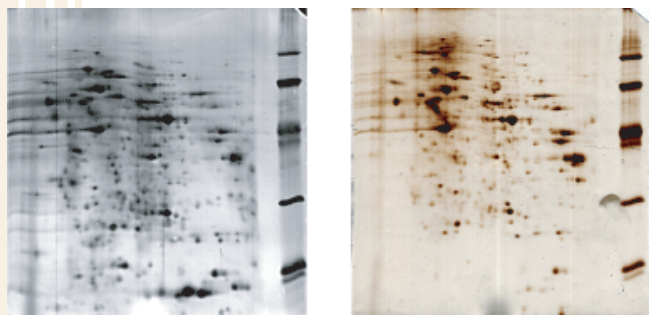
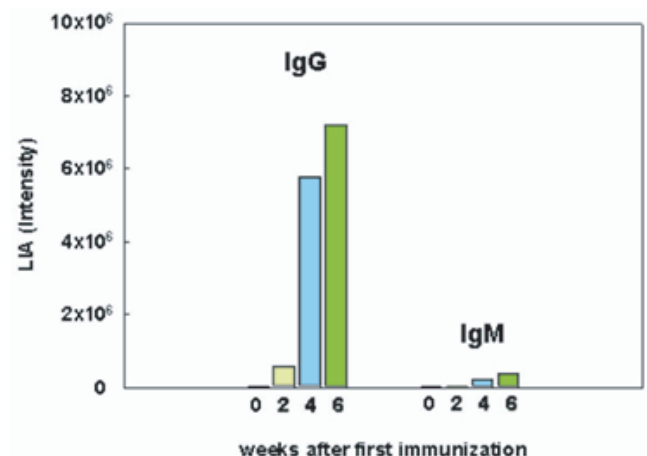

Figure 4. Comparison of staining results for 2-DE gels. (A) VisPRO™ 5 minutes Protein Stain Kit and (B) silver stain.
Figure 3: Levels of the elicited immunoglobulin molecules in an ImmunoFast™ boosted animal.
Numerous tests have demonstrated that VisPRO™ 5 minutes Protein Stain Kit delivers better staining sensitivity than SYPRO Ruby™ stain, silver stain, and Coomassie Brilliant Blue stain (CBR stain) (Figure 3). This kit offers a dynamic staining range from micrograms to nanograms (even as little as 1 ng of protein can be detected). Unlike other staining methods requiring the interaction between dye molecules and proteins to generate a staining preference between protein species, the reverse staining method provided by the VisPRO™ 5 minutes Protein Stain Kit allows observations of all proteins. However, more protein spots can be found on the two-dimensional electrophoresis (2-DE) gels developed by the VisPRO™ 5 minutes Protein Stain Kit than other high sensitivity protein staining methods, such as silver stain (Figure 4).
The VisGlow™ plus Chemiluminescent Substrate, HRP system is an enhanced chemiluminescent substrate with advanced efficacy and sensitivity for chemiluminescent detection. The VisGlow™ plus is at least 8-fold more sensitive than other competing products (Figures 1 and 2), and the emission of chemiluminescence can retain up to 12 hours (Figure 3). Due to its strong luminescence signals, the time required exposing to X-ray films or other imaging acquisition systems can be shortened, and this improves the experimental results by decreasing background noises in Western blot (Figure 4).
- Long duration** : retain signals up to 78% of maximal intensity after a 60-min reaction (Figure 3)
- Antibody saving** : generate strong signals with minimal usage of antibody (Figure 4)
Figure 3: The duration test for VisGlow™ plus, brand P Plus and brand A chemiluminescent substrate. After a 60-min reaction, emission of chemiluminescence from VisGlow™ plus retained up to 78% of its original intensity while only 10-12% was retained for other brands tested.
Figure 4: Comparison of Western blot (WB) application for VisGlow™ plus, brand P Plus and brand A chemiluminescent substrate. Human plasma at 1/3 serial dilution from 1 ?l was separated by 12.5% SDS-PAGE and probed using anti-human serotransferrin. All results showed were exposed to X-ray films for 5 seconds.
The ImmunoFast™ can induce a complete class switch from IgM to IgG in immunized animals (Figure 3). The ImmunoFast™ elicits more profitable immunoglobulin molecules (IgG) for downstream applications.